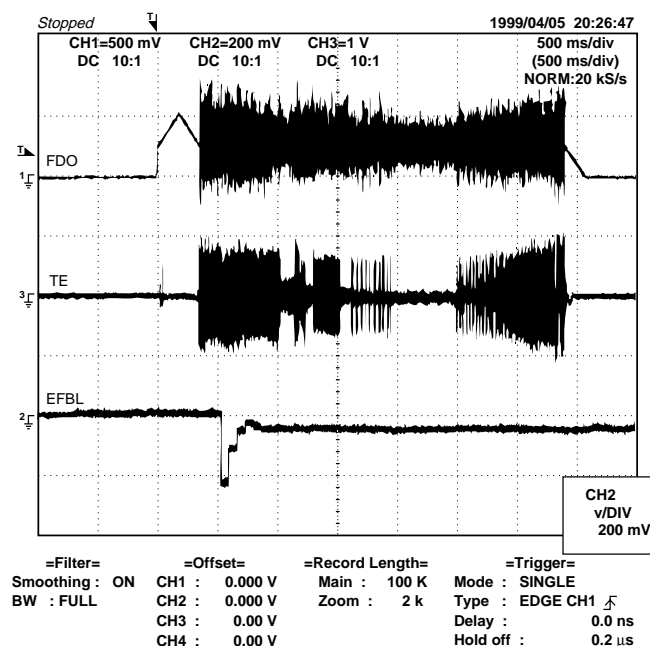

Figure 13-2
- Tracking balance adjustment (waveform drawing Fig.13-2 EFBL)